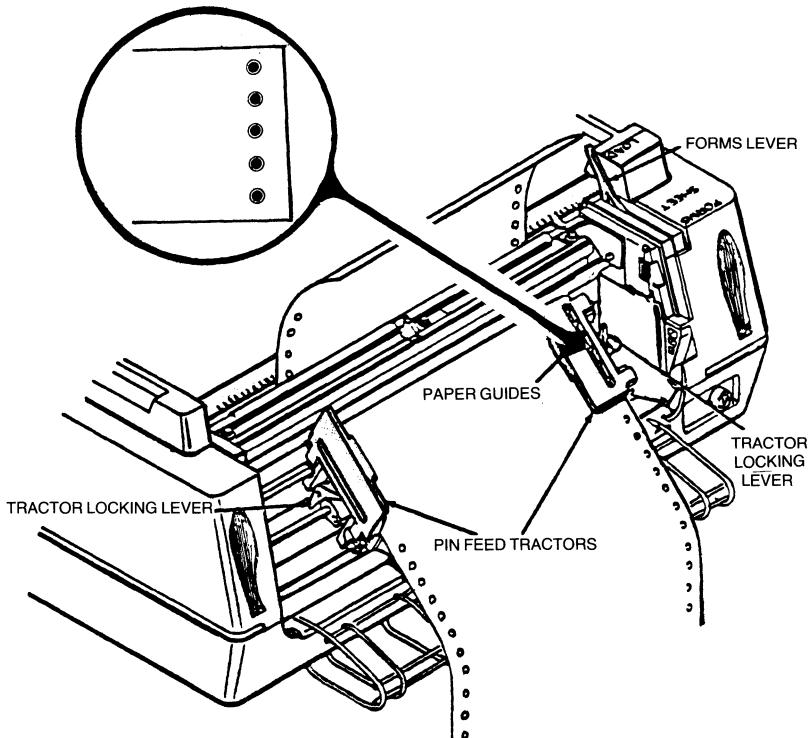

Figure 1-16 Centering Forms on Tractor Pins.
5. Place your forms on the pin feed tractors. Make sure the paper is taut and the holes are centered on the pins or your paper may jam. (See Figure 1-16.)